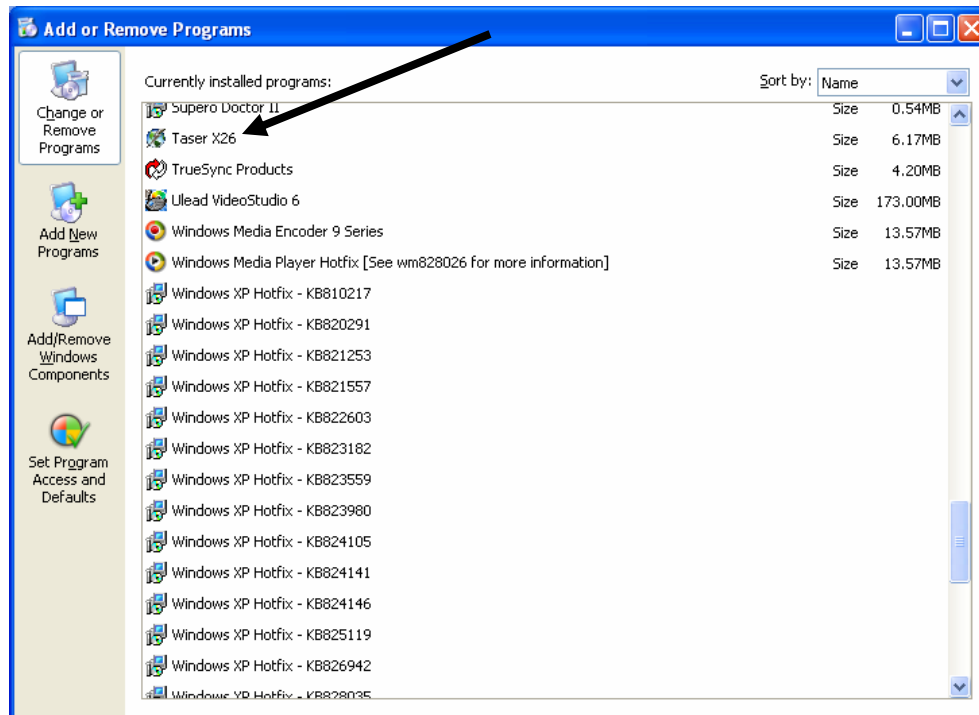

Figure 40
8. Select **Taser X26** on the **Remove Programs** page (Figure 40).